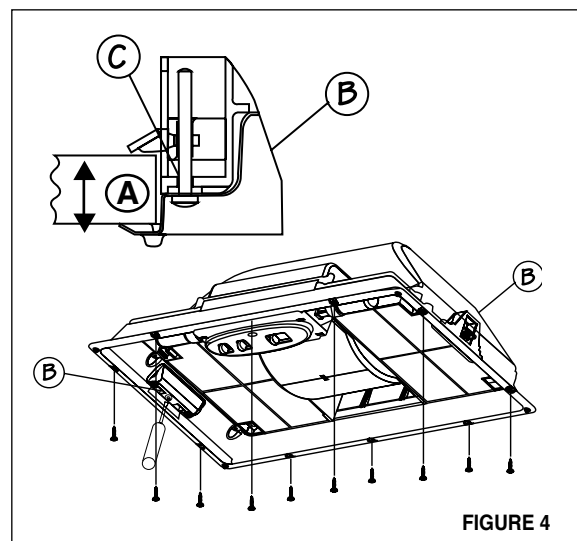

FIGURE 4
4. Fix the rangehood to the cabinet using the two spring loaded brackets, one on each side of the rangehood (**B in FIGURE 4**). Using a philips screwdriver, tighten the adjustment screw (**C in FIGURE 4**) until the brackets adhere tightly to the surface. For thicknesses of LESS than 3/4", insert a block of wood to fill in the gap between the cabinet bottom and the spring loaded bracket.
5. **IMPORTANT:** Also fix the rangehood to the cabinet using the 10 screws provided (**FIGURE 4**).